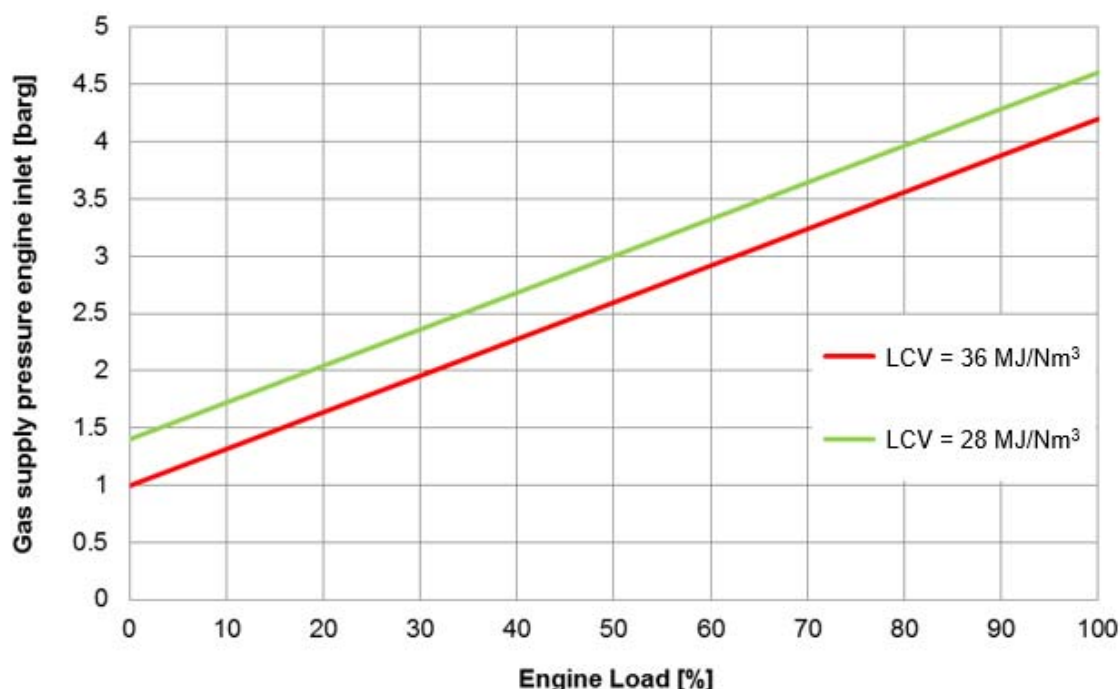

Figure 5.2 Gas supply pressure at engine inlet
- ✓ Refer to Figure 5.2 for required gas pressure.
Gas supply pressure can be interpolated in case of 36 MJ / Nm^3 and 28 MJ / Nm^3 of gas lower heating value as Figure 5.2. The gas supply pressure at gas regulating unit inlet, G11 (See the diagram Figure 6.7) should be considered as followings;